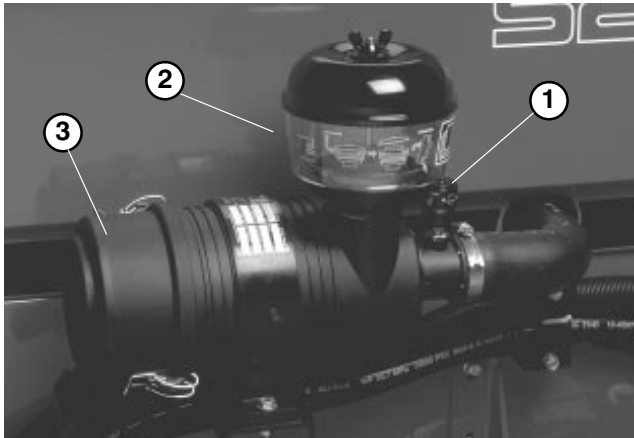

Figure 45
2. Service the air cleaner filters when ever air cleaner indicator (Fig. 45) shows red or every 400 hours (more frequently in extreme dusty or dirty conditions). Do not over service air filter.
SERVICING PRECLEANER BOWL (Fig. 45)
8. Reset indicator (Fig. 45) if showing red.